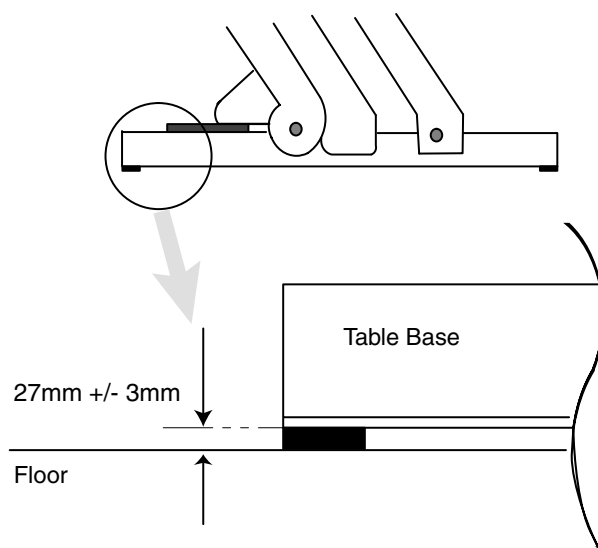

Figure 1-22 Typical Table Base Clearance
- 9.) There must be a minimum of 27 mm $\pm$ 3 mm between the bottom of the table base and the floor for the covers to fit correctly. Check the distance between the table base and the floor, to ensure that the covers fit properly (see Figure 1-22 and Figure 1-23).